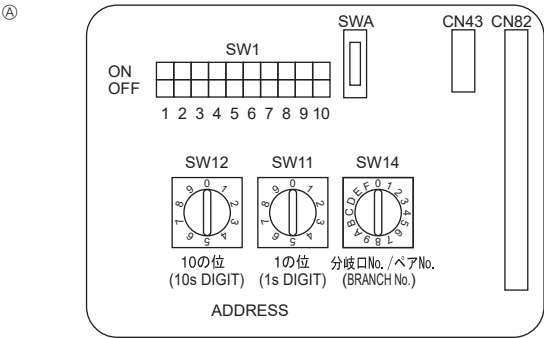

Fig. 6-4
6.6. Setting addresses (Fig. 6-4)
- ① How to set addresses